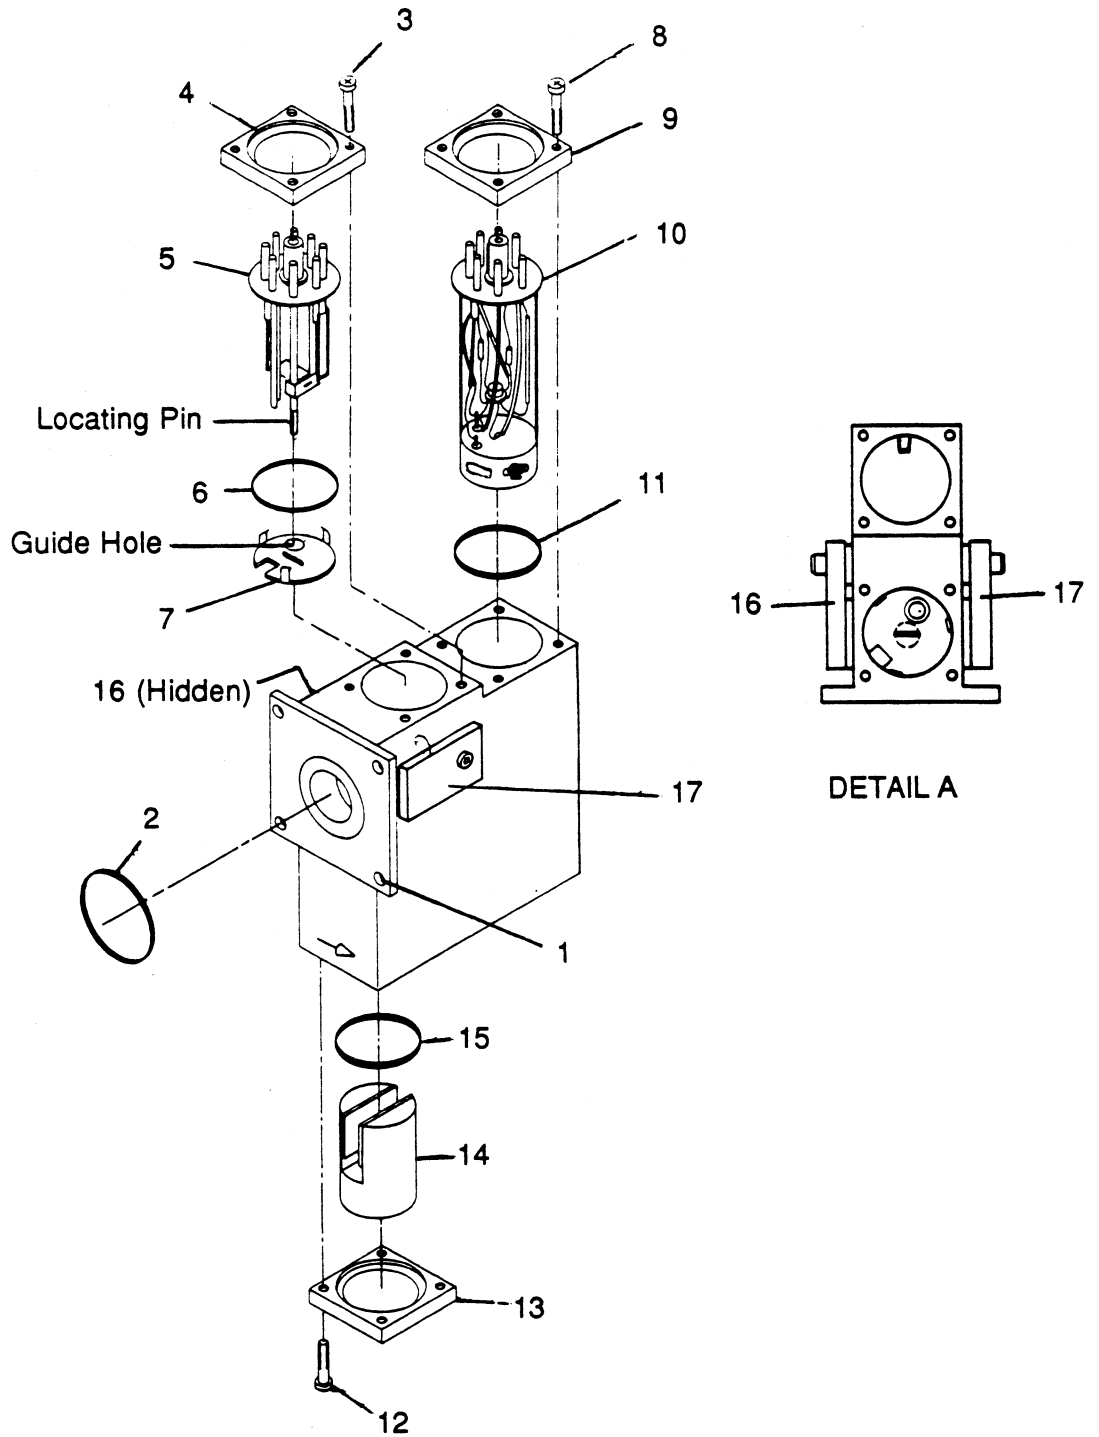

Figure 5-3. Spectrometer Tube Exploded View.
- 3 Place the locating pin of the new ion source approximately in the center of the guide hole as shown in Figure 5-3.
- 5 Remove the Allen screws (1, Figure 5-3) from the spectrometer tube flange.
- 6 Rock the spectrometer tube gently to break its vacuum. Look for and carefully remove the O-ring (2) under the flange. Note the position of the grounding strap.
- 8 Remove the four Phillips head screws (3) that hold the flange cap (4) onto the ion source (5).
- 9 Firmly but gently separate the flange cap (4) from the ion source (5). Note the O-ring (6) on the ion source; remove and discard both the O-ring and the ion source (Varian part no. 82850-302).
5-3-7 Assembly of the Spectrometer Tube (Refer to Figure 5-3)
- 1 Install a new ground slit plate (7) carefully. Be sure that the snap prongs fit snugly and are facing up. Using a long, thin screwdriver, align the slit at 90° with the side wall of the spectrometer tube. Concentrically align the circular hole in the plate with the smaller guide hole in the bottom of the ion source cavity (see Detail A, Figure 5-3).
- 2 Wipe a new O-ring (6) and the mating surfaces with a clean, lint-free cloth and place the new ion source (5) in its cavity by:
- c tightening the flange cap (4) evenly and firmly with the four Phillips head screws (3).
- 3 Wipe a new O-ring (11) and mating surfaces. Place the preamplifier (10) in its cavity with the O-ring in place. Orient the preamplifier so it is properly keyed. Tighten the flange cap (9) evenly and firmly using the four 9/64 Allen head cap screws (8).
- 4 Carefully place the analyzing magnet assembly in its cavity with a new O-ring. **Be sure to place the magnets so that the arrow on the analyzing magnets is perpendicular to the side of the spectrometer tube body. Check that the arrow is in the same direction as the arrows on the spectrometer tube body and enhancement magnets (see Figure 5-3).** Again, wipe the O-ring and mating surfaces with a clean, lint-free cloth and tighten the flange cap (5) evenly and firmly.
- 5 Wipe a new mounting O-ring (2) and mating surfaces with a clean, lint-free cloth. Hold the spectrometer tube with one hand and install four Allen screws (1). Tighten the screws evenly to insure a proper metal-to-metal seal. Remember to attach the grounding wire.
- 1 While the spectrometer tube is disassembled from the pumping system frame, secure the rear magnet (closest to the pumping system frame). Check that the arrow on the magnet matches the direction of the arrow on the body of the spectrometer tube (see Figure 5-3).